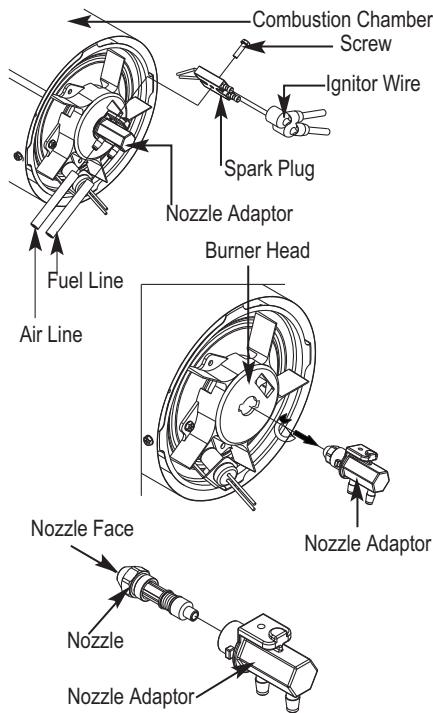

Figure 12 – Nozzle Replacement For Models CP125CK and CP170CK
- Turn nozzle adaptor 1/9 turn (40°) to counter clock wise and pull toward motor to remove. (See Figure 12)